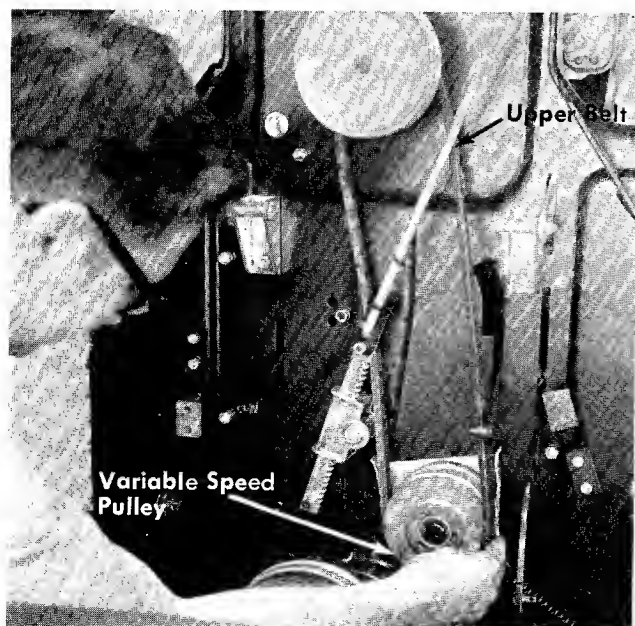

FIGURE 32. REMOVING FROM VARIABLE SPEED
Step 11. Slide the movable center section of the variable speed pulley away from the rider and remove the upper belt from the variable speed pulley. See figure 32.